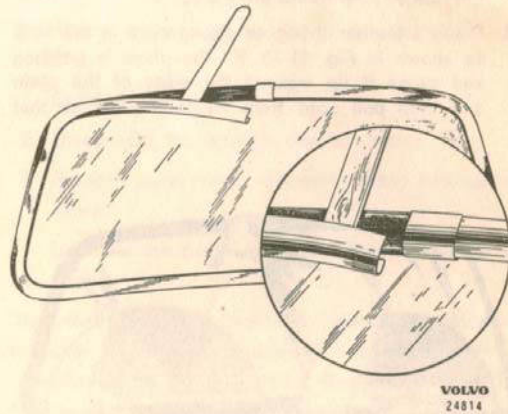

Fig. 11-15. Removing trim molding
pulled out and the window handle removed, see Fig. 11-15.
1. Remove the trim molding with the help of a wooden putty knife and lift off the molding, see Fig. 11-15.